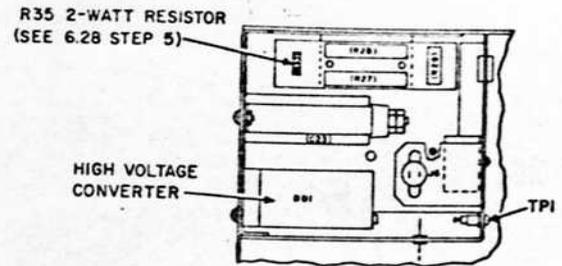

Fig. 6—High Voltage Compartment—Cover Removed
- (1) Operate the ON-OFF switch on the front panel to the OFF position.
- (2) Remove fuse from the front panel.
- (3) Remove the screws and open the front panel.
- (4) Remove the screws from the high voltage compartment cover located in the upper left hand corner of the electrical equipment cabinet, and remove the cover. The high voltage compartment is illustrated in Fig. 6.